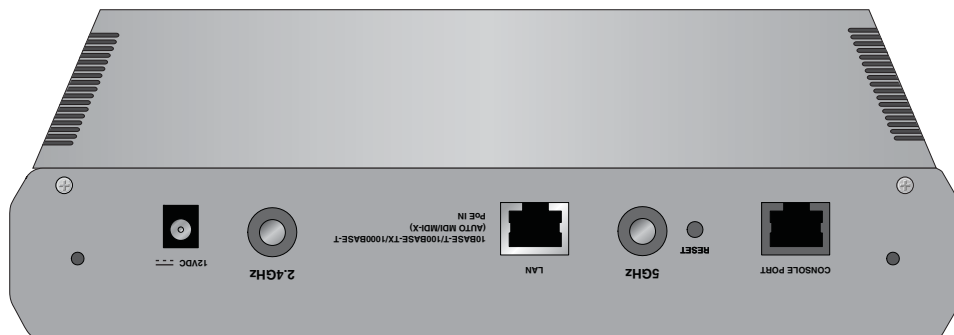

Figure 18. Rear Panel Upside Down
1. Place the AT-TQ2450 Access Point upside down on a table or desk, with the rear panel facing you. Refer to Figure 18 on page 41.